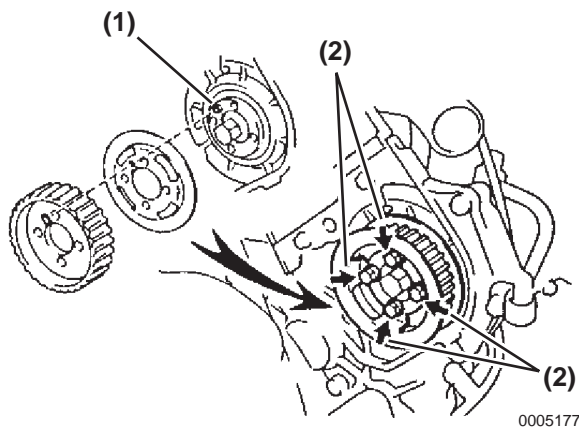

Figure 5-178
9. Align the knock pin (**Figure 5-178, (1)**) on the injection pump drive gear with the knock pin hole of No. 1 flange timing pulley.
10. Install the No. 1 flange, timing pulley and No. 2 flange using four bolts (**Figure 5-178, (2)**) and torque to 315 kgf·cm, 30.87 N·m (22.7 lb-ft).